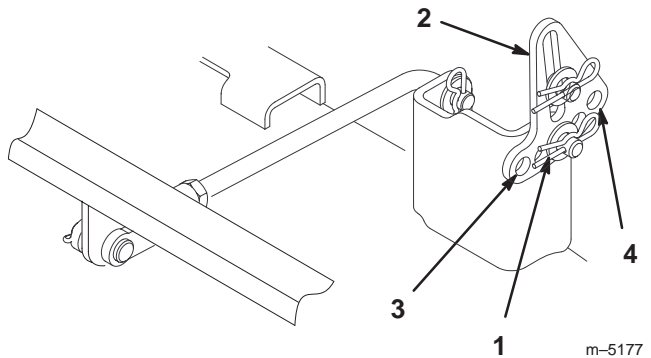

Figure 39
7. Remove the hairpin cotter and washer from the leveling bracket (Fig. 39). To level the blade(s), reposition the leveling bracket(s) in a different hole and install the washer and hairpin cotter (Fig. 39). A front hole lowers the blade height and a rear hole raises its height. Adjust both sides as required.